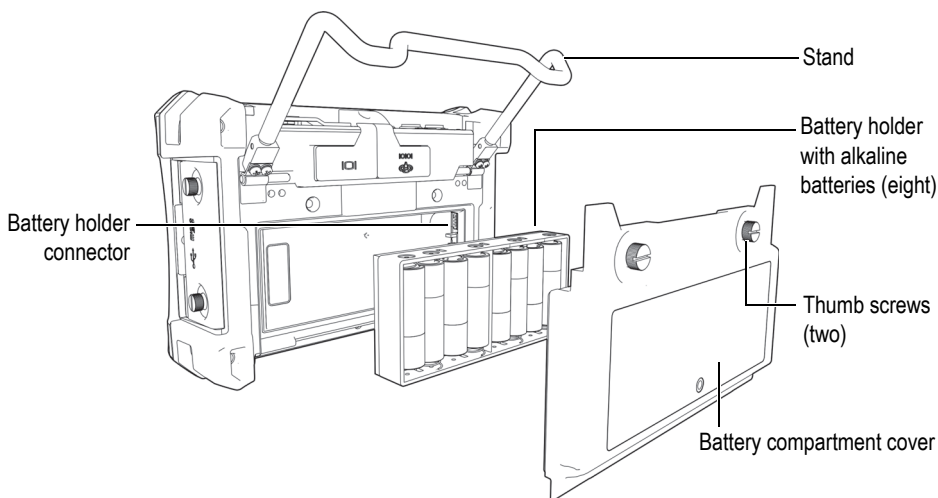

Figure 1-12 The alkaline battery holder
1. Unfold the instrument stand (see Figure 1-12 on page 39).